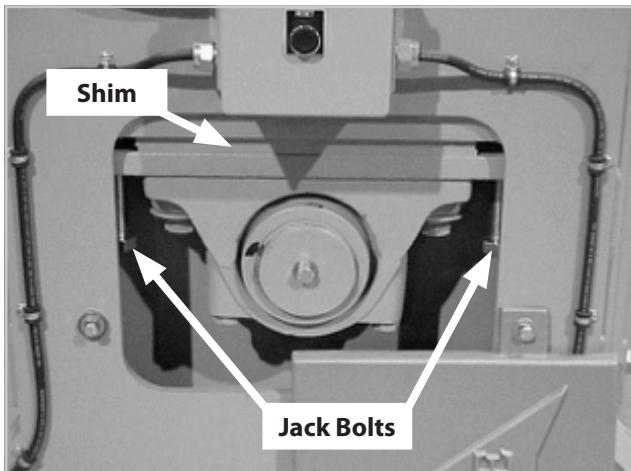

Figure 70
- Step 3. Tighten the Jack Bolts to create a gap under the bearing mount plate (Figure 70).
- Step 4. Remove or add shims as needed (Figure 70).